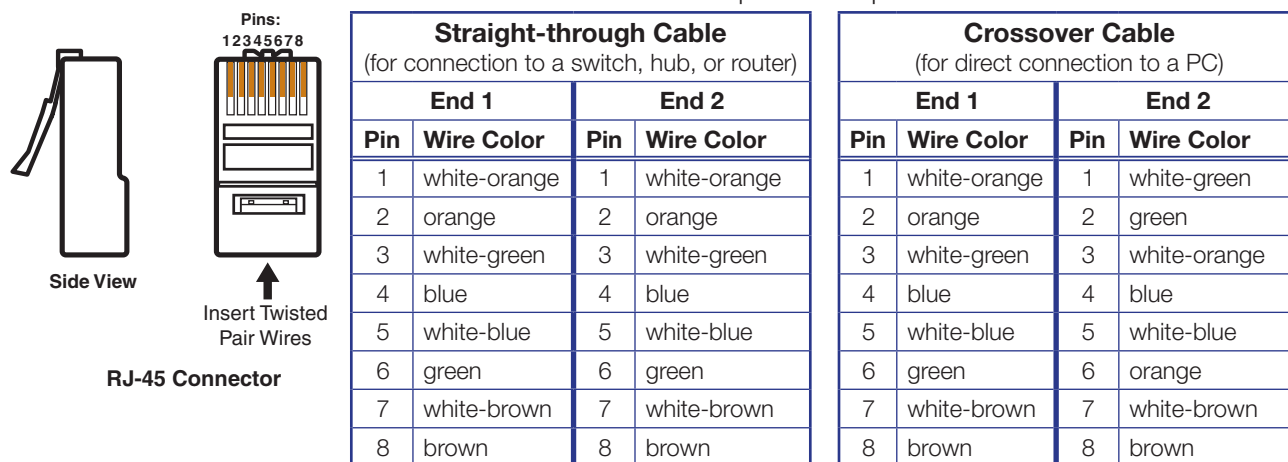

Figure 17. RJ-45 Connector and Pinout Tables
- Terminate cables with shielded connectors to the TIA/EIA-T568B standard only (patch cables, see figure 17 on the previous page).